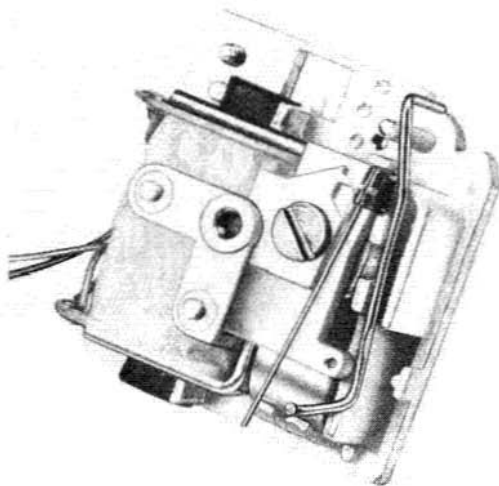

Fig. 3—9A Buzzer With Cover (64A Gong) Removed
**2.08** The 9-type buzzer (Fig. 3, 4, and 5) is composed of a G1C ringer motor, P-type armature, and 64A plastic gong (cover).